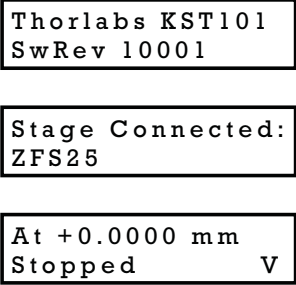

Fig. 3.4 KST101 start up screens
**If the actuator/stage has been recognised automatically via the eeprom, the start up screens will display 'Stage connected xxxx' as shown in Fig. 3.4. If the stage is not fitted with an eeprom, the display will show the last stage type persisted, e.g. Stage persisted: ZST13B**